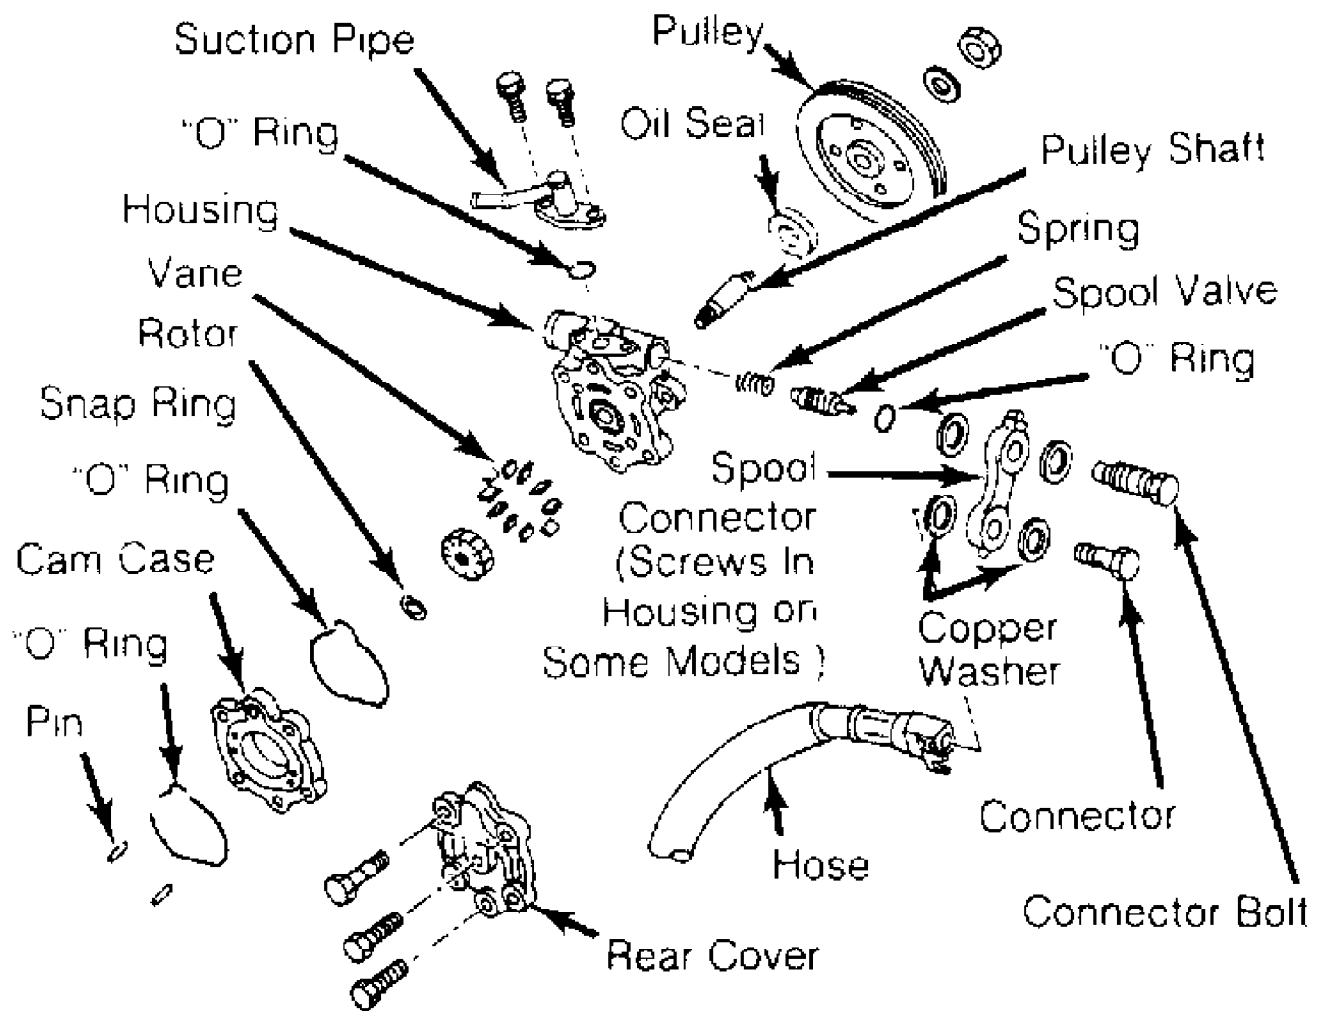

Fig. 7: Exploded View of Power Steering Pump (Axxess, Maxima, Stanza, 240SX & 300ZX)
- 6) On other models, remove rear pulley shaft snap ring. See Fig. 7. Remove pulley shaft. Remove cam case and "O" rings. Mark rotor and vanes for direction of installation. Remove rotor and vanes.